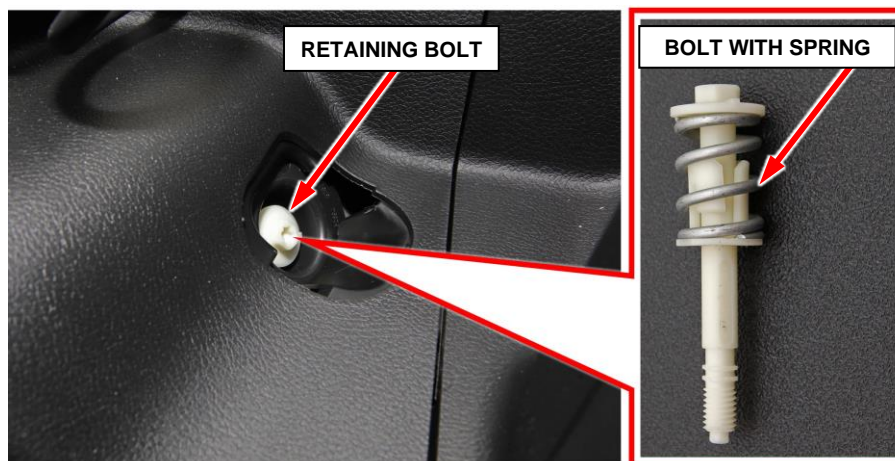

Figure 3 – Tail Lamp Retaining Bolt
5. Remove the retaining bolt with spring securing the tail lamp (Figure 3).
- Install and tighten the tail lamp retaining bolt with spring to 1.9 N·m (16.8 in. lbs.) (Figure 3).